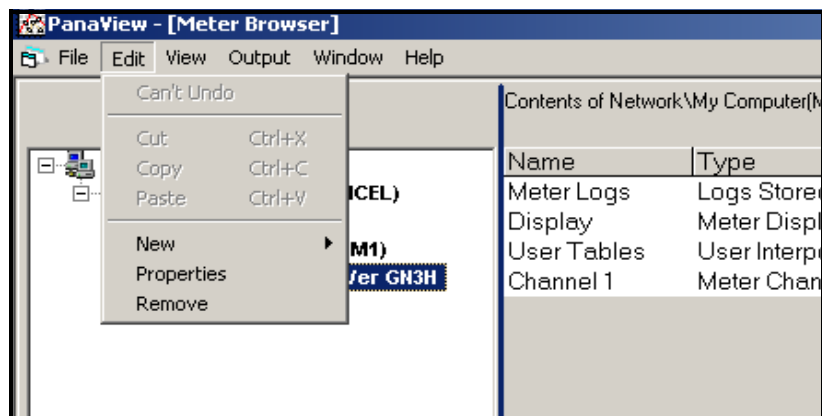

Figure D-8: The *Properties* Option in the *Edit* Menu
2. Open the "Edit" menu and select the "Properties" option, as shown in Figure D-8 below.